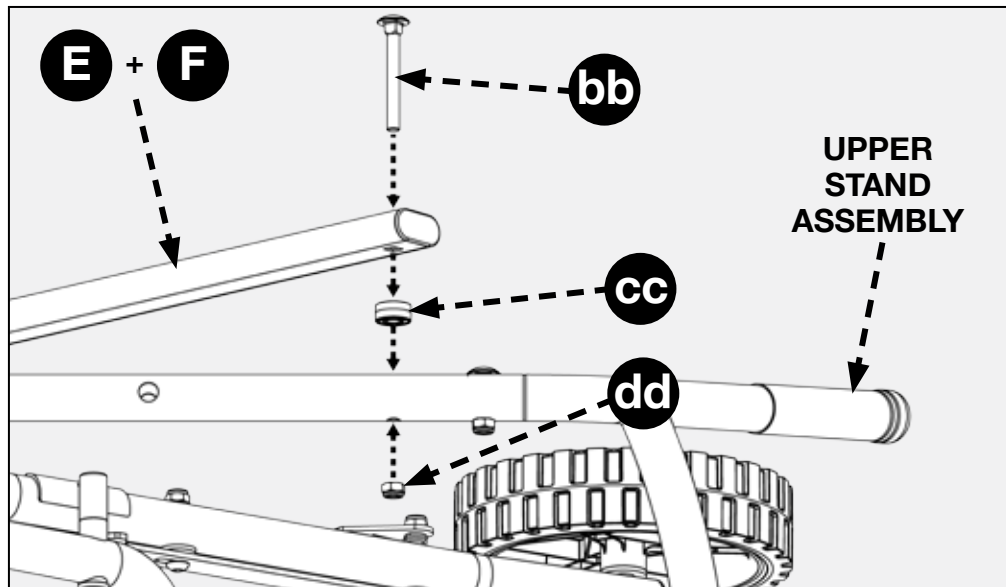

FIGURE 13
Attach the right and left support rod assemblies (E & F) as shown in Figure 13 to the upper stand assembly with two M8 x 67 carriage screws (bb), spacer (cc) and M8 locknuts (dd) as shown in Figures 13 & 14.
**NOTE:** Ensure the spacer (cc) is between the support rod assembly and the upper stand assembly as shown in Figure 13.